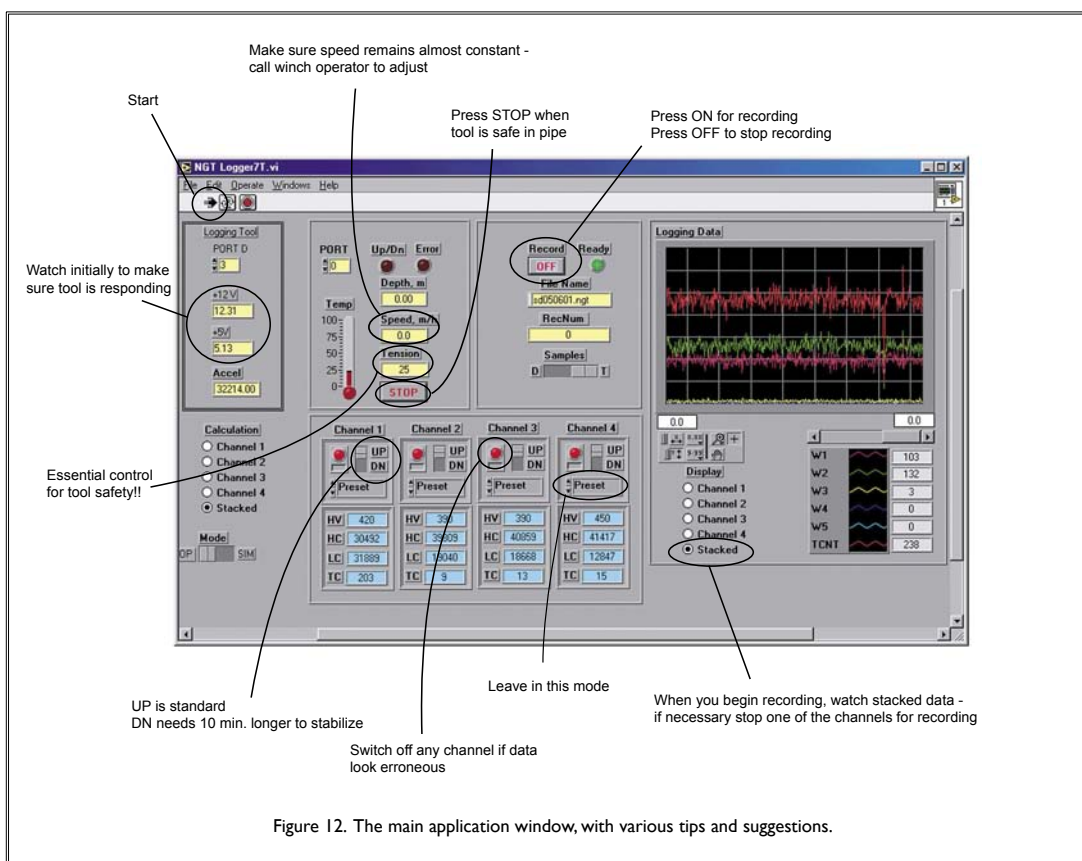

Figure 12. The main application window, with various tips and suggestions.
9. Type in the name of the data file. (By default, the program will assign the date as the filename.) For a repeat pass, add “rep” to the name so the passes can be distinguished. A typical data file name might be the hole name followed by the direction of the logging pass: sd050601down.dat, or sd050601up.dat. Once the file name is entered, press “Save.” You can now focus on the mail application window (Figure 12, below).
3. The MGT needs about 10 minutes to stabilize in UP mode and about 20 minutes to stabilize if it is run in DOWN mode. UP and DOWN mode do not correspond with the direction of the tool but rather are associated with the initialization of the tool. In UP mode, the regulation system is off, and in DOWN mode the regulation system is on. **You should leave the setting in the pre-set mode (UP) at all times.**
6. Even without the measurement module connected, the telemetry system will work, so you will see appropriate behavior on the left side of the software's data acquisition screen (Figure 12). If the measurement module is connected and working properly, you will also see "refreshing" values being generated in the lower center part of the DAS panel.
1. With the tool powered up, check the left side of the data acquisition screen (Figure 12) where the “12V,” “5V,” and “Accel” fields are. If you see nothing in these fields, the tool is dead. If you see information here, then the tool is at least partially working.
3. Remember that you, the logger, are the only person who can monitor tension, so be alert. Pay close attention to the data acquisition screen in the Logger.vi application (Figure 12).